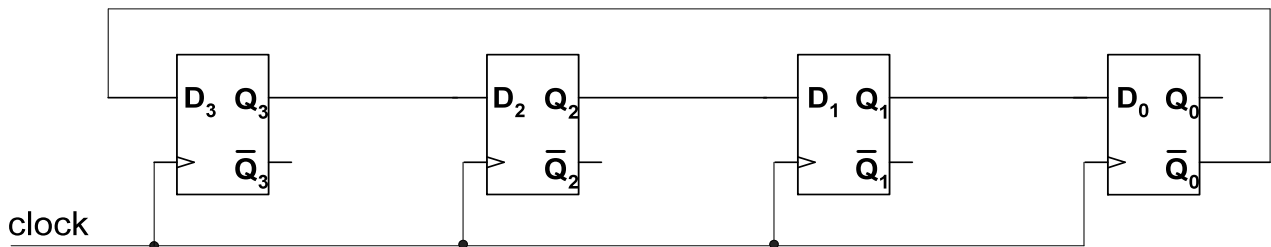

Figure 7 - Circuit for question 12.
12. In Figure 7, if the current state is $Q_3Q_2Q_1Q_0=1001$, then the next state will be: